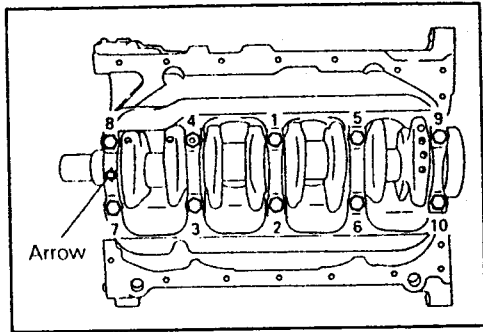

Fig. 15.20. — The arrow in the bearing cap must face towards the front of the engine. The numbers refer to the tightening sequence.
- Fit the bearing shells into the bearing cover, with the notches engaging into the grooves of the bearing locations. Lubricate the shells with engine oil. Place the cover over the crankcase, taking care not to drop the shells. The one-piece bearing cover has one arrow at the position shown in Fig. 15.20, which must be facing towards the front end of the engine. Use a plastic mallet to tap the bearing cover in position.
- Tighten all bearing cover bolts to 2.5 kgm (18 ft.lb.) from the centre towards the outside in several stages, in the order shown in Fig. 15.20. From the final position tighten each bolt in the same order by a further $\frac{1}{4}$ of a turn (90°).